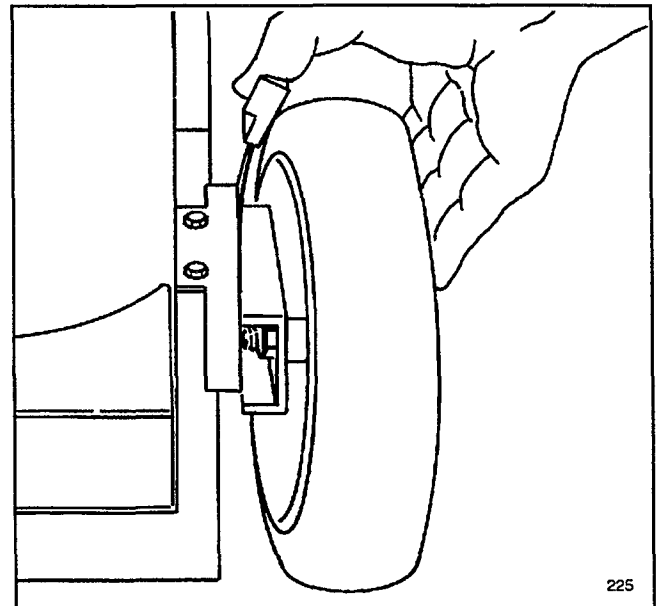

Figure 17
2. For easier adjustment, lift housing up so wheel is off ground. Do not place hands under deck to lift housing. Squeeze adjusting lever toward wheel (Fig. 17) and move it to the desired setting. Ensure pin on adjusting lever engages notch in mower housing wear plate. Adjust all wheels to the same setting.